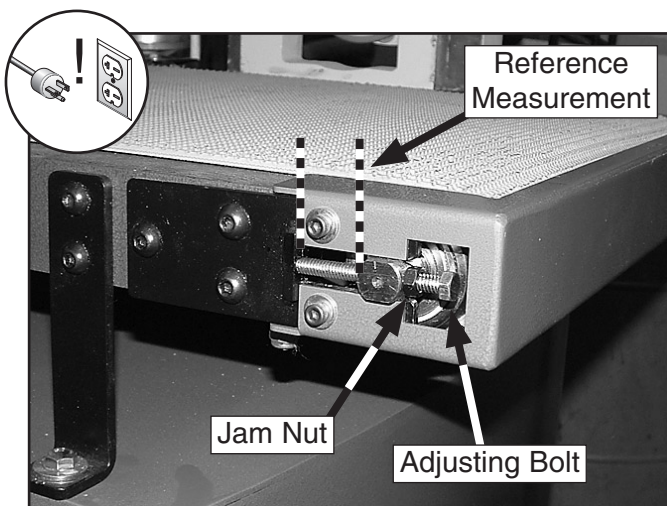

Figure 32. Conveyor belt adjusting bolts (one side shown).
1. Take the reference measurement shown in **Figure 32** on both sides of the conveyor.
2. Determine which side the conveyor belt is tracking towards, and tighten the adjustment bolt (see **Figure 32**) on that side until the belt tracks in the opposite direction.